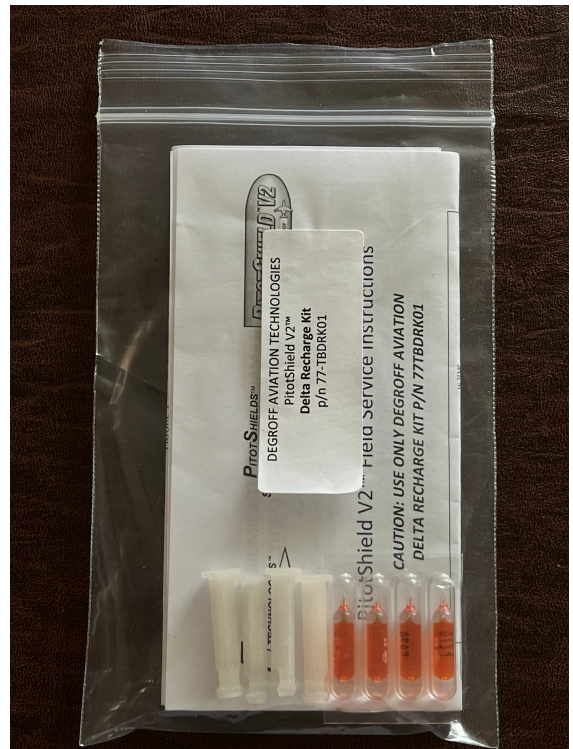

Fig. 4
- a. Collect the PSV2 components and the Thermal Actuator Retainer. Retrieve a Thermal Actuator bulb from the Delta Recharge Kit (Figure 4). Engage the three lower hinge hooks as shown in figure 5. Bring the two halves together until opposed as in Figure 6, with the lower hooks engaged. Ensure that the RBF attachment and the Retainer Ring chords are not impinged between the pitot cover halves. Hold the PSV2 in one hand in such a way that both halves will be held together, nose cone pointed straight down.